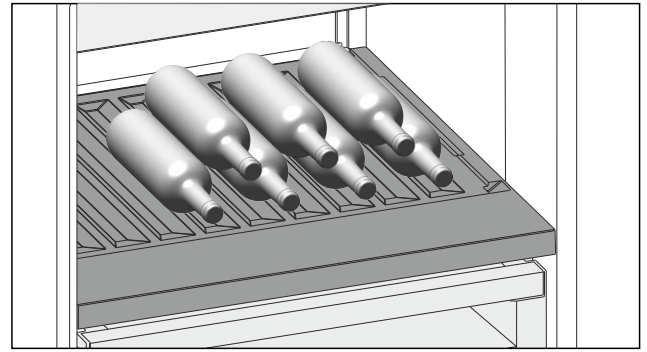

Fig. 210 Example illustration
- ▶ Place bottles in the back row with their bases against the back wall. (see Fig. 210)